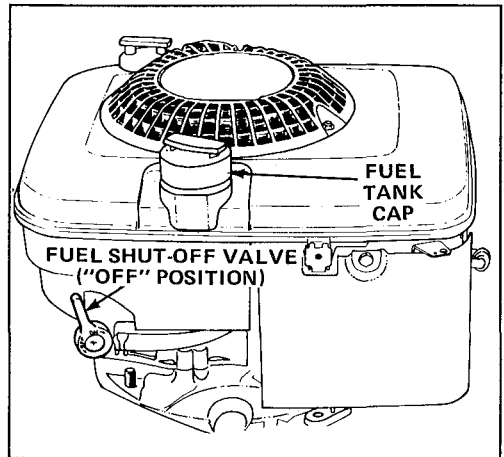

Figure 18
2. Turn the fuel shut-off valve to the OFF position (Fig. 18).
3. Remove cap from fuel tank (Fig. 18) and use pump-type syphon to drain fuel into clean gas can.